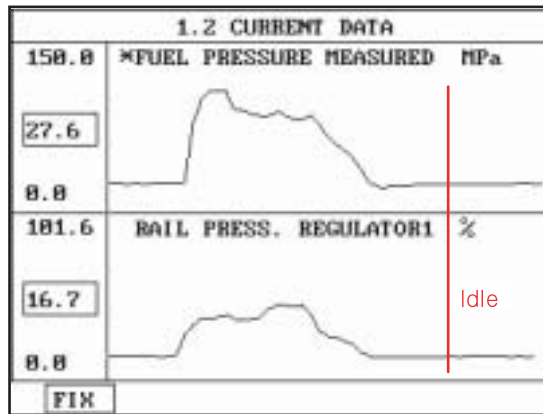

Fig.2
- Fig.2) Fuel pressure and Rail pressure regulator valve data at idle.